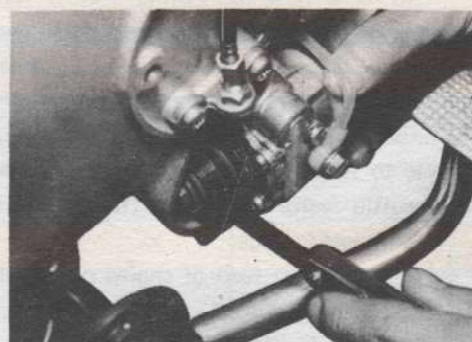

Fig. 2-3
- a. Using the adjusting shims, plunger stroke is set to 0.20 ~ 0.25 mm. (with the adjusting pulley at minimum delivery position). (Fig. 2-3)